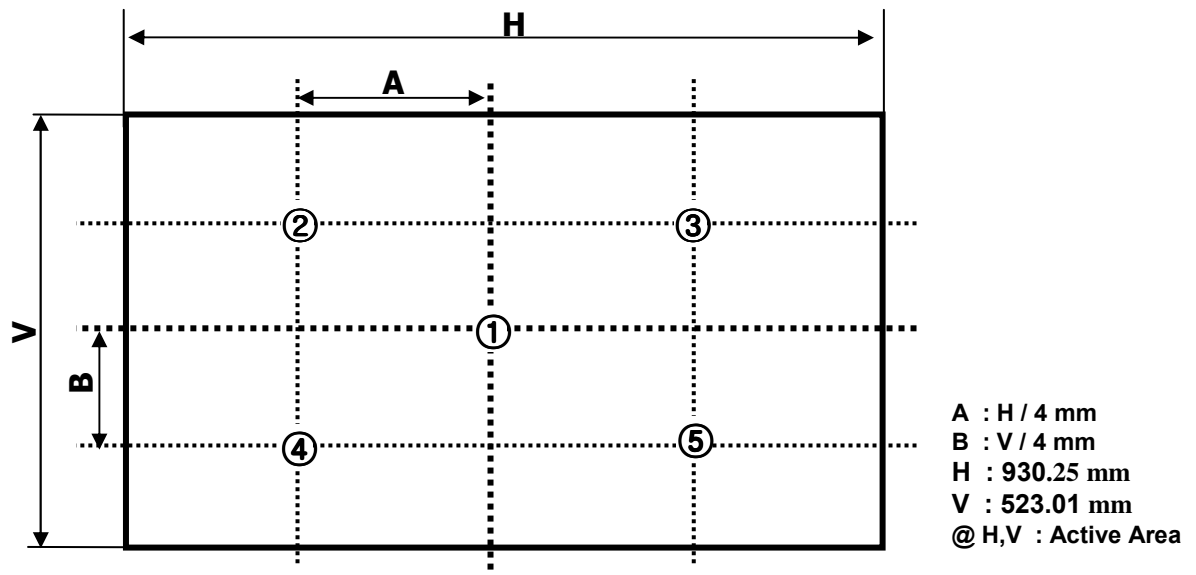

FIG.2 Measure Point for Luminance
n = the Position number(1, 2, 3, 4, 5), For more information, see FIG. 2.
2. Surface luminance are determined after the unit has been 'ON' and 30min after lighting the backlight in a dark environment at 25± 2°C. Surface luminance is the luminance value at center 1-point across the LCD surface 50cm from the surface with all pixels displaying white. For more information see the FIG. 2.
For more information, see the FIG. 2.